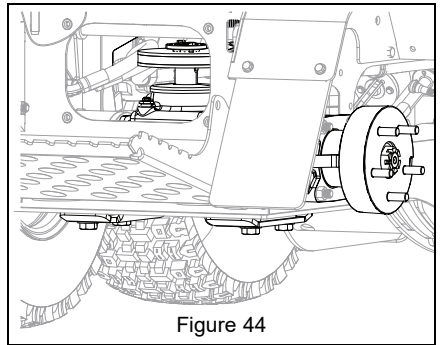

Figure 44
3. Remove right rear wheel assembly. See Figure 44.